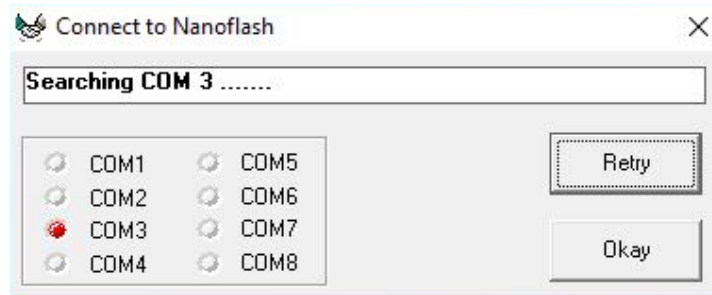

Figure 8. Searching for connection message.
- After resolving the problem, click Retry. A window will appear that shows it is searching for the instrument connection (as shown in Figure 8).